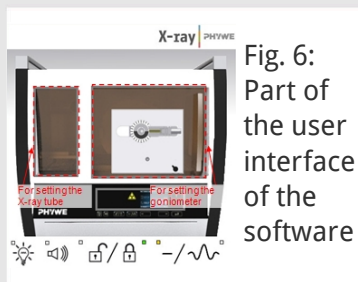
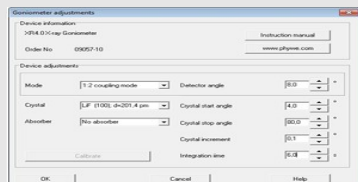

Fig. 6: Part of the user interface of the software
Fig 7: Settings of the goniometer
- Click the experiment chamber (see the red marking in Figure 6) to change the parameters for the experiment. Select the parameters as shown in Figure 7 for the LiF crystal.
- If you click the X-ray tube (see the red marking in Figure 6), you can change the voltage and current of the X-ray tube. Select the parameters as shown in Fig. 8.